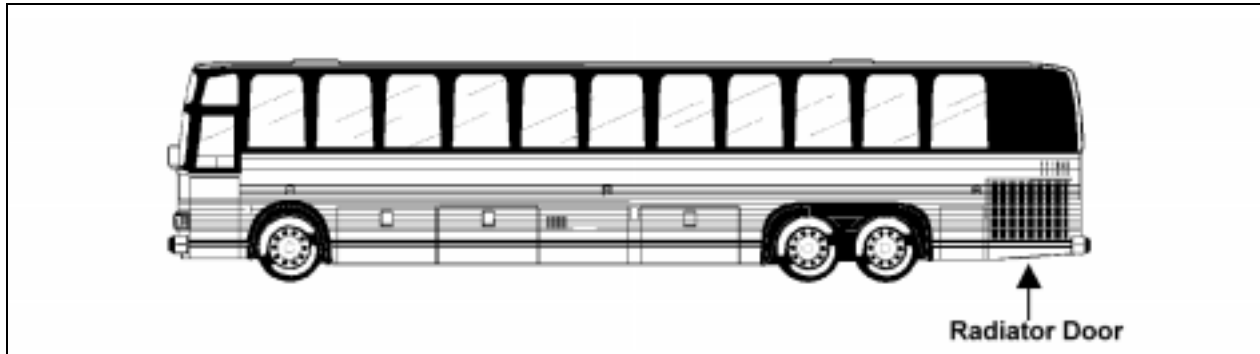

FIGURE 1 : VEHICLE EXTERIOR (TYPICAL)
1. Open the radiator door (Fig. 1);